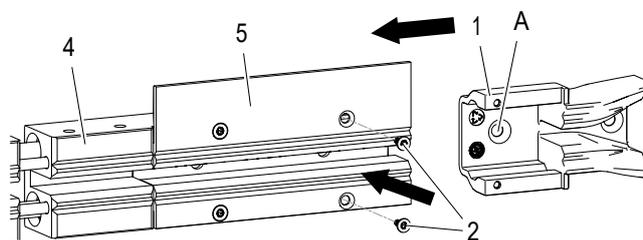

Fig. 64: Mount transfer guide
- If the anchor point screw is not to be installed in the expansion unit (4) (see System Layout), it can be mounted using the drill holes in the transfer guide (A) (see Fig. 64).
- If the anchor point (A) is to be seated in the transfer guide (1) (see system Layout), then install the anchor point screw with nut at the corresponding point in the transfer guide (1) with a tightening torque of 0.15 Nm (M4 DIN 7991, hexagon socket SW2.5 – steel 8.8, nut (SW7)) (see Fig. 64).
- Slide the transfer guide (1) onto the expansion unit (4) with the rail adapter (5) (see Fig. 64).
- Tighten the 2 screws (2) (M2,5x6) for the plastic transfer guide (1) with a tightening torque of 0.3 Nm (screw type: Hexagon socket (Torx) T8) (see Fig. 64).
- If an aluminium transfer guide (1) is used, then 2 self-tapping screws M3 x 8 are to be used. Tighten these with a tightening torque of 2.0 Nm, screw type: Hexagon socket (TorxPlus TP10).